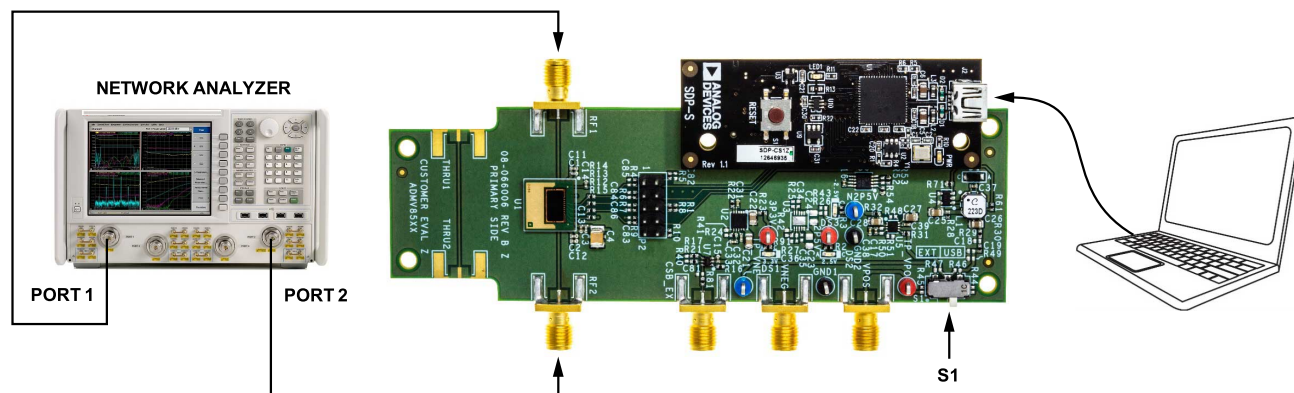

Figure 2. ADMV8502-EVALZ Lab Bench Setup
To power the ADMV8502-EVALZ using the 5 V USB supply, slide the S1 switch to select USB (as shown in Figure 2) to power the on-board negative voltage generator and LDO regulators. Alternatively, the ADMV8502-EVALZ can be powered externally by sliding the S1 switch to select EXT and then connecting the power supplies to
Figure 2 shows an example lab bench setup for the ADMV8502-EVALZ. To observe the filter response from the ADMV8502-EVALZ, connect the RF1 and RF2 ports to a network analyzer (or similar instrument). Typically, RF1 and RF2 are connected to Port 1 and Port 2 on the network analyzer, as shown in Figure 2.
1. Connect the RF1 and RF2 ports to a network analyzer (or a similar instrument). Typically, RF1 and RF2 are connected to Port 1 and Port 2 on the network analyzer, as shown in Figure 2.
3. On the ADMV8502-EVALZ, slide the S1 switch to select USB (as shown in Figure 2) to power the ADMV8502-EVALZ from the 5 V USB supply voltage from the PC via the SDP-S.